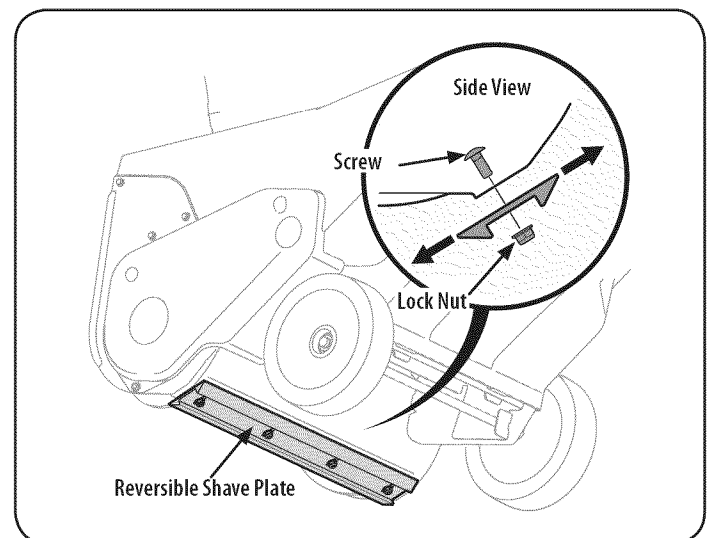

Figure 17
3. Loosen the four flange lock nuts and carriage bolts which secure the shave plate to the housing. See Figure 17. Move the shave plate to the desired position and retighten the nuts and bolts securely.